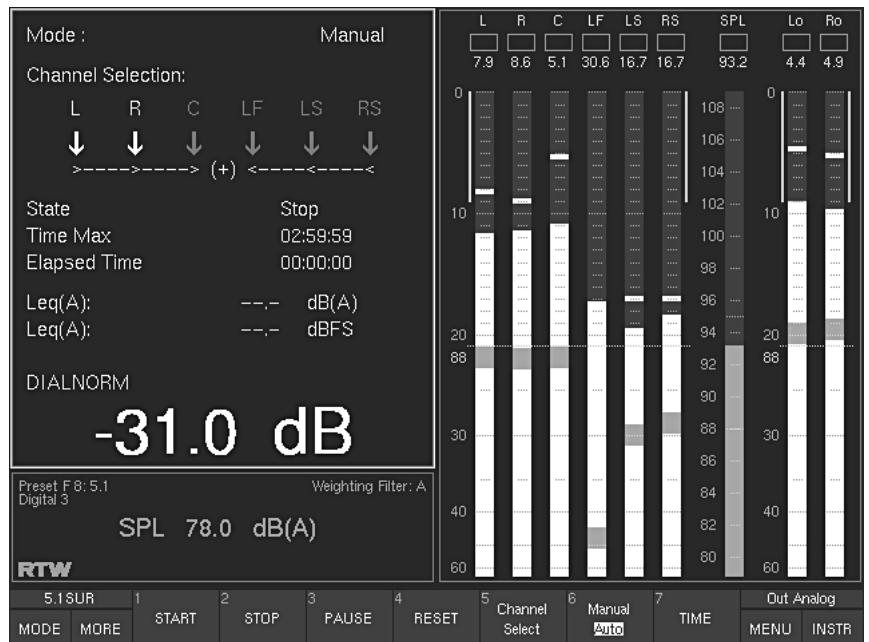

Fig. 5-57: The functions of the DIALNORM instrument displayed in the Toolbar
(Button/key 1, see Fig. 5-57)
(Button/key 2, see Fig. 5-57)
(Button/key 3, see Fig. 5-57)
(Button/key 4, see Fig. 5-57)
(Button/key 5, see Fig. 5-57)
- L + R: L and R channel pair together (Button/key 1)
- C: Centre channel (Button/key 2)
- LF: LF channel (Button/key 3)
- LS + RS: LS and RS channel pair together (Button/key 4)
- Close: Terminates the selection and returns you (Button/key 7) to the previous layer
(Button/key 6, see Fig. 5-57)
(Button/key 7, see Fig. 5-57)